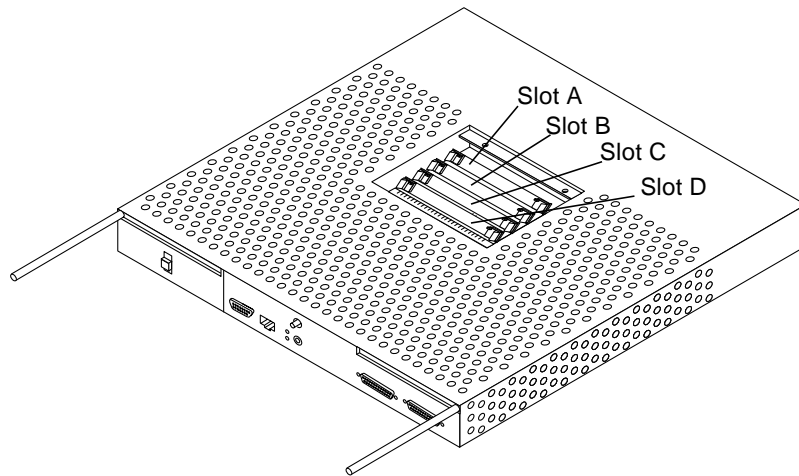

FIGURE 3-9 A1000 Controller—Empty SIMM slots
- b. **Remove the SIMMs from slot B and slot A (FIGURE 3-9).**
6. **Replace the 8 Mbyte SIMMs into slot A and slot B (FIGURE 3-9).**
7. Remove the two 32 Mbyte SIMMs from the antistatic packaging. Install them into slot C and slot D (FIGURE 3-9).